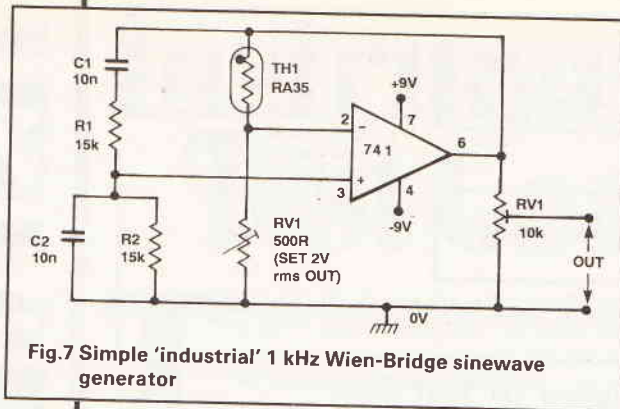

Fig.7 Simple 'industrial' 1 kHz Wien-Bridge sinewave generator
**AF Sine-Wave Generators.** These are designed to generate low-distortion (typically 0.1% at 1 kHz) low frequency (usually 20 Hz to 30 kHz) sine waves, and are normally based on a Wien bridge or Twin-T oscillator. Figure 7 shows an example of a thermistor-stabilised Wien-based design that can be used in fixed-fre-